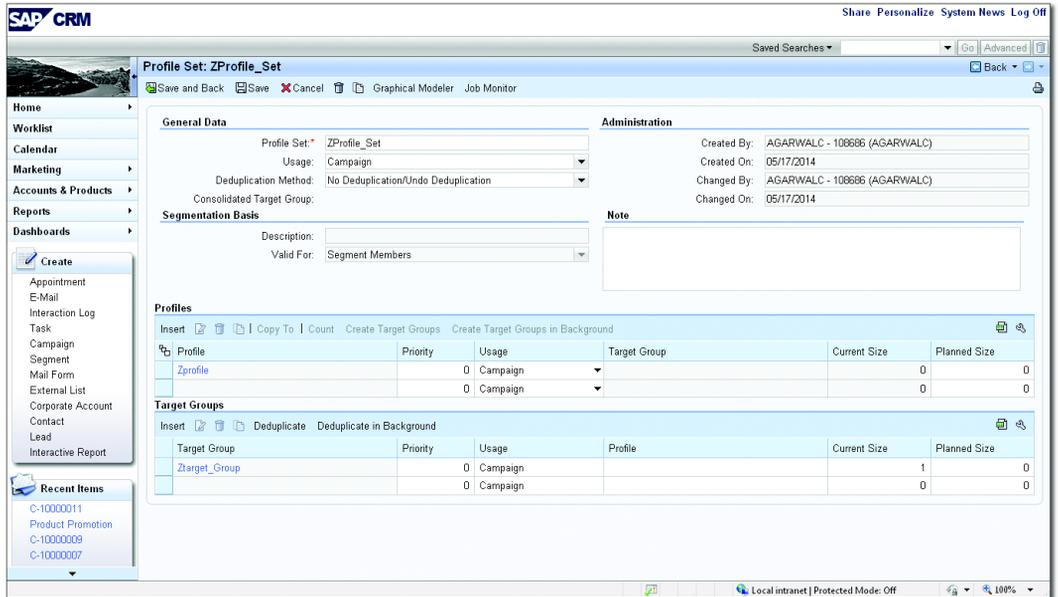

Figure 5.19 Profile Set
- Assign the PROFILE and TARGET GROUP to the PROFILE SET, as shown in Figure 5.19.